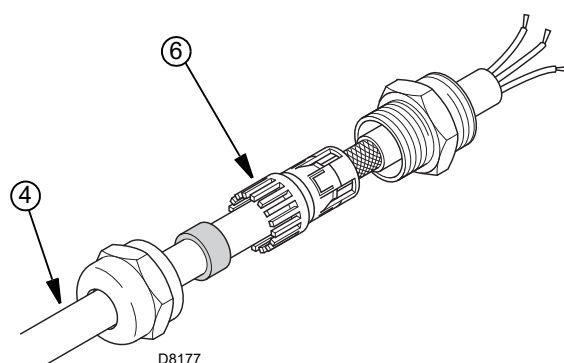

Fig. 27
- Shield the cable 4) running from the VSD (inverter), as shown in Fig. 27 and using the coupling 6);